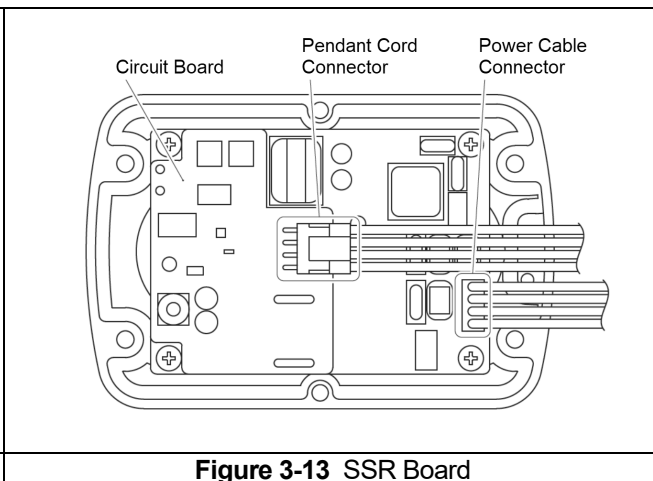

Figure 3-13 SSR Board
- Connect the Connectors to its appropriate mate inside the hoist (see **Figure 3-13**).